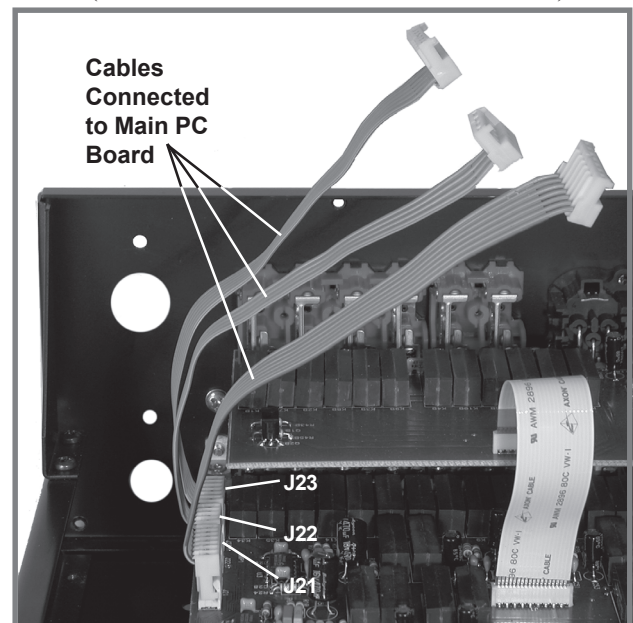

Figure 21
7. Relocate the free ends of the previously installed cables and rotate them over the top and to the right of the attached cable ends. Refer to figure 21.
10. Orient the Module so the "F" Connector, that is at the bottom of the Module, will fit through the lower opening of the C45 Rear Panel (the cover was previously removed in Step 4) and the three PC Board Connectors are facing up. Refer to figures 21 and 22.